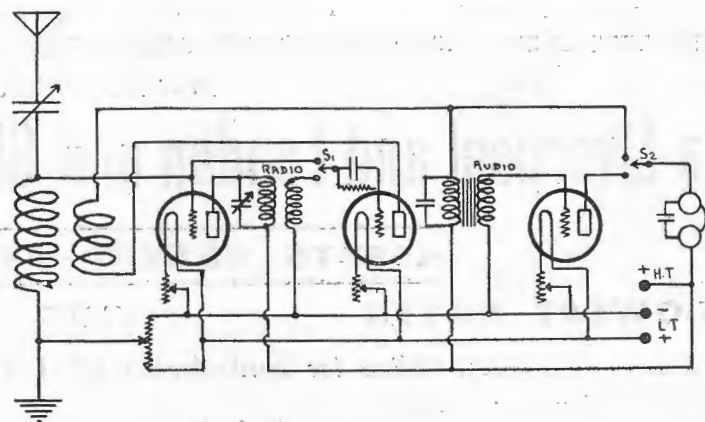

Fig. 2.
(2) For circuit see diagram Fig. 2.